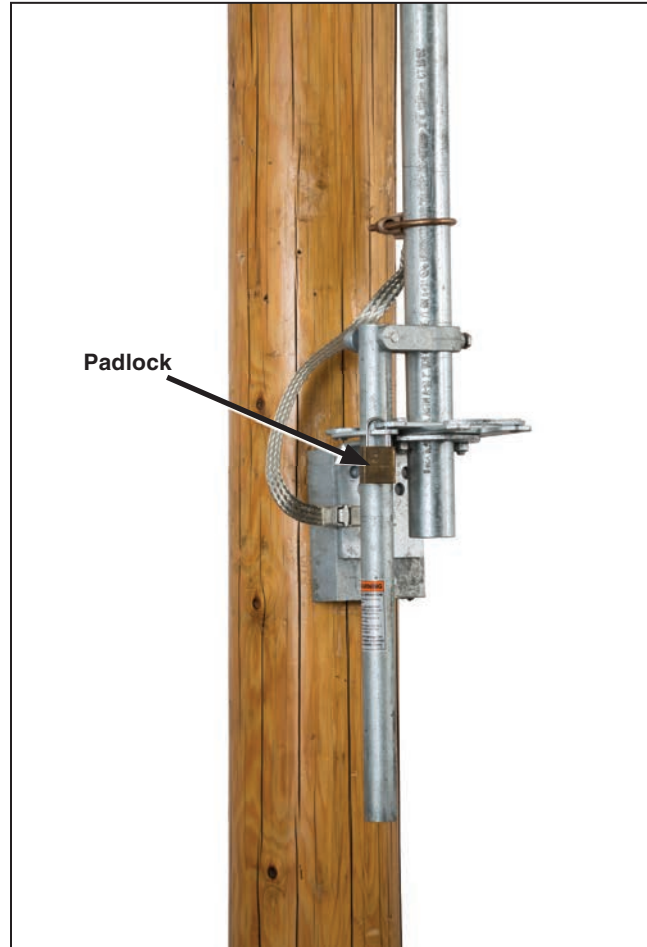

Figure 43. Remove the padlock(s).
- (a) Remove the padlock(s) from the hasps on the operating-handle assembly. See Figure 43.